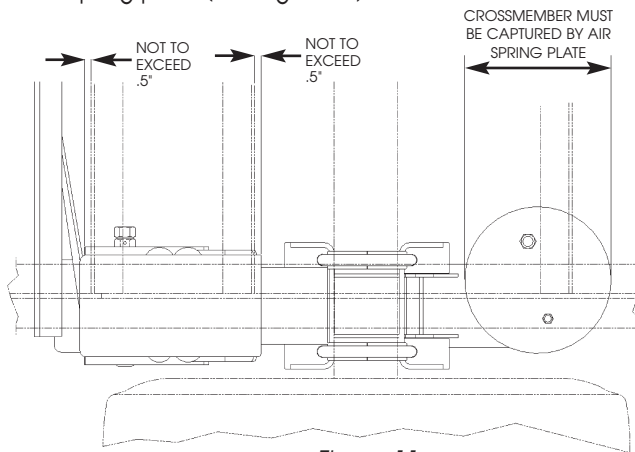

Figure 11
- Vehicle crossmembers are positioned within footprint of frame bracket and on centerline with upper air spring plate (See Figure 11).